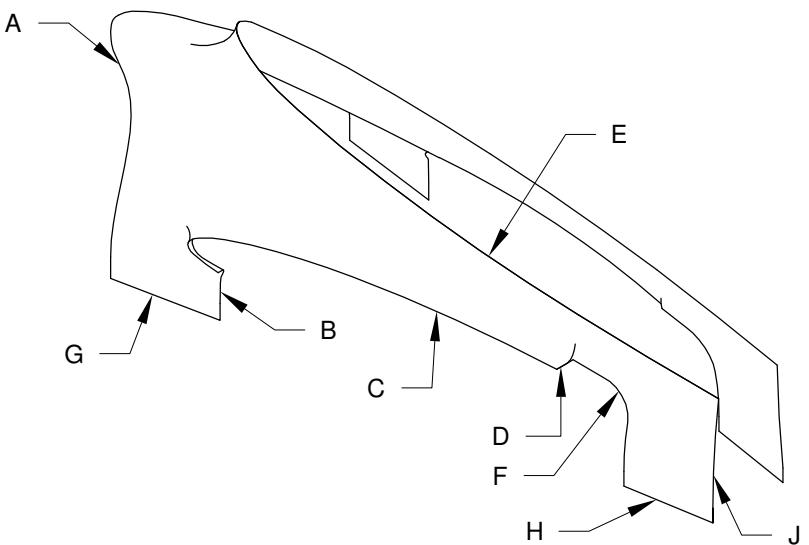

FIGURE 1: EMPENNAGE FAIRING TRIM
Step 2: Trim the F-1094B Empennage Fairing, edge A as shown in Figure 1 to meet the scribe line in the part for this edge.
Step 4: Mark the F-1094B Empennage Fairing for trimming. See Figure 1 for edge callouts. Mark edge B flush with the front edge of the F-1094A Empennage Gap Cover. Edge C is indicated by a scribe line, check that this line will provide enough screw hole edge distance and remark the line if necessary. Edge C is parallel to the inboard edge of the HS-1001 Horizontal Stabilizer Skin but different widths at the forward and aft edges. Mark edge D flush with the aft top edge of the horizontal stabilizer skin. Edge E is indicated by a scribe line, check that this line will provide enough edge distance and remark the line if necessary. Edge E should parallel the aft lower edge of the VS-1001 Vertical Stabilizer Skin and then curve upwards towards leading edge of the vertical stabilizer assembly. Mark edge F as shown in Figure 3 to provide a minimum 1/4 clearance between edge F and the WD-605-L/R Elevator Horns with the elevator assembly rotated through its full range of motion. Mark edges G and H even and parallel with the lower edge of the F-1075 Tailcone Aft Top Skin and empennage gap cover. See Figure 3. Mark edge J even with the aft edge of the F-1073 Side Skins and vertical stabilizer skin.